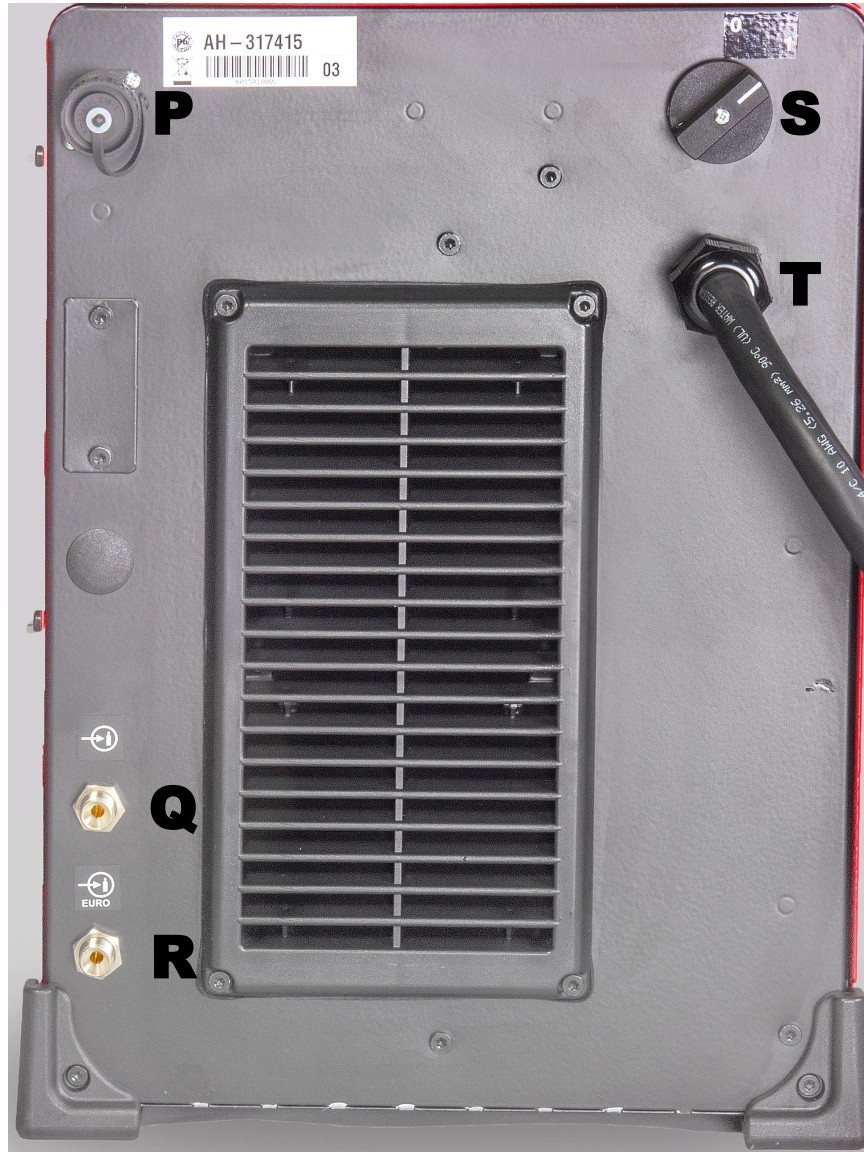

Fig. 3
- 1) Plug the machine into the power receptacle (**Fig. 3, Pos. T**; you will need to install a plug on the power cable).
- 2) Turn the machine on (**Fig. 3, Pos. S**).
The Pro Pulse 300's input power cable (**Fig. 3, Pos. T**) contains four wires—one ground wire and three hot wires. You can easily identify the ground wire thanks to color-coding (either green or green/yellow striped). The machine does not require a common or neutral wire. If one of the three hot, non-ground wires, is white, connect the wire to a hot leg. (Although, connecting the third hot wire is not necessary for single-phase operation.)
The TIG welding process requires the use of 100% Argon gas. Install the flowmeter on your tank, and connect the flowmeter to the Pro Pulse 300 with the supplied gas hose. To connect the gas hose, fasten one end of the gas hose to the flowmeter and the other to the back of the welding machine (Fig. 3, Pos. Q). The gas hose connections should be a little bit more than finger tight; however, be careful not to over-tighten the connections. About a 15-20 CFH flow rate is a good starting point; although this ultimately depends on the cup style and size you are using.